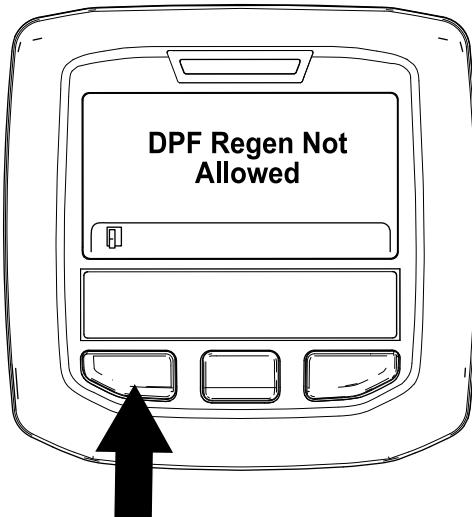

Figure 52
- If the regeneration process is not allowed by the engine computer, the “DPF Regen Not Allowed” message displays in the InfoCenter (Figure 52). Press the left button to exit to the home screen